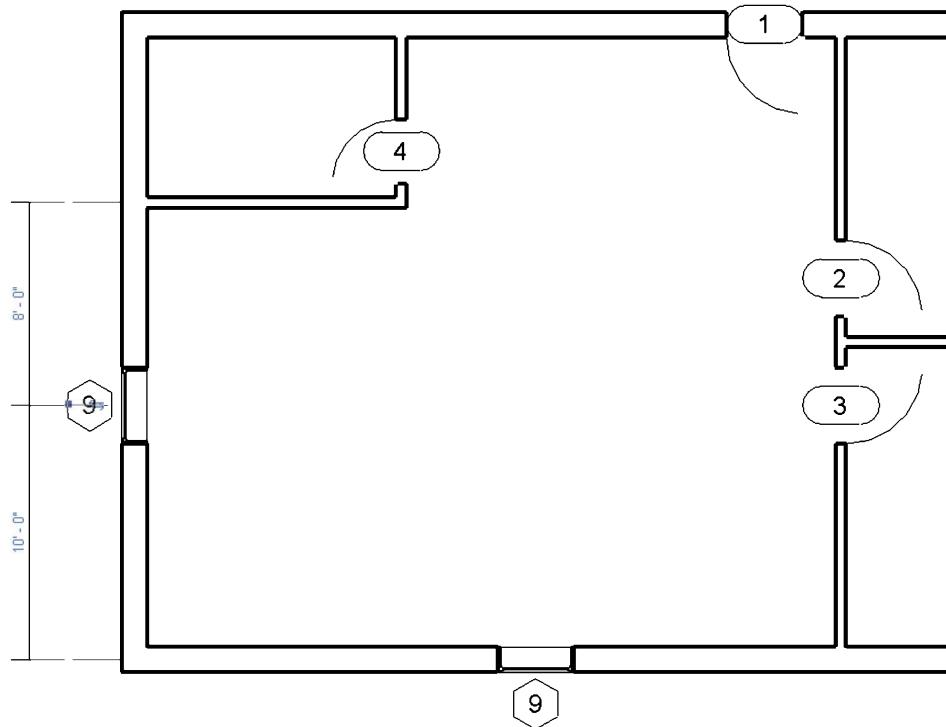

FIGURE 2-3.3 Two large windows
4. Move your cursor over a wall and place two windows as shown in **Figure 2-3.3**. Notice, as you move your cursor near a wall, that the position of the window changes depending on what side of the wall your cursor is favoring.